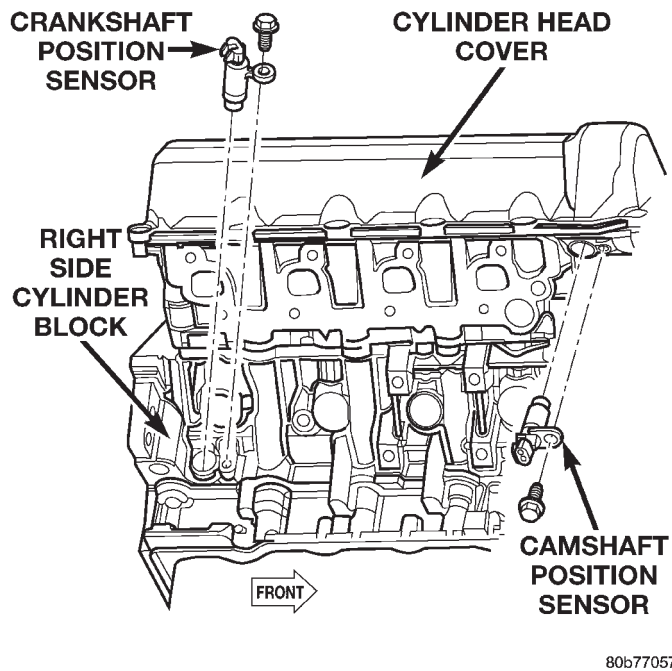

Fig. 84 Camshaft Position Sensor
- (6) Remove the camshaft position sensor (Fig. 84).
- (11) Install the camshaft position sensor (Fig. 84).
- (12) Install the cylinder head cover.